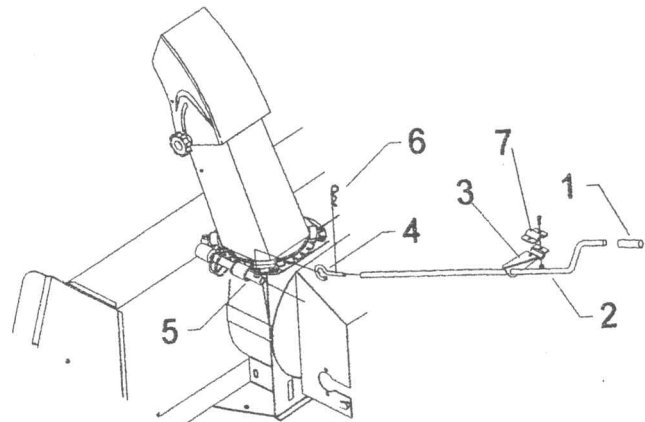

FIGURE 12
- g) Install the rotation support bracket (fig. 12, item 3 & 7) using 1/4 X 3/4" bolt and nut on the left hand side on the A.T.V. rack. Choose the ideal place and make sure the hand crank is easily accessible and does not interfere with the steering handle.
- h) Install 1/2 X 3" handle grip (fig. 12, item 1) on chute rotation handle (item 2) and insert handle through hole in rotation support bracket.
- i) Install hook (fig. 12, item 4) on rotation worm. Insert hook in rotation handle and lock in place with a 2.5mm hair pin (item 6).
The chute rotation handle (fig. 12, item 2) is located to the left of the steering bar. Turning the handle in a clockwise direction turns the discharge chute in a clockwise direction.